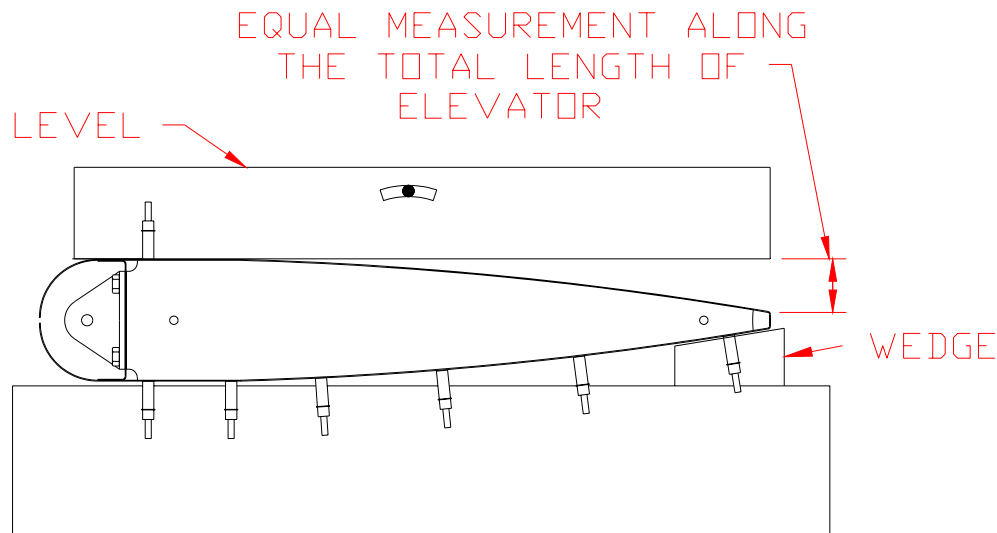

Figure 3.3.3
- 4) Level the assembly so there is no twist. Figure 3.3.3. **NOTE:** This is an important step to have done correctly. Please be careful on leveling. The distance along the trailing edge to the level should be the same along the length of the Elevator.